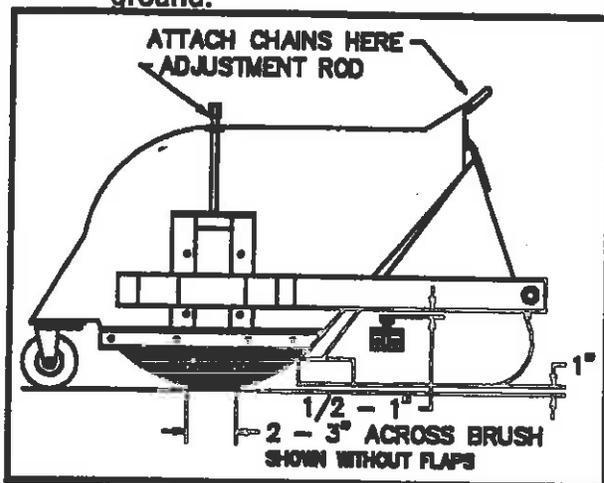

Figure 4
1. With front caster on ground, position bucket approximately 1 inch and level above ground. (See figure 4)
2. Shut machine down and stop engine. Adjust side bracket bolts so head of bolt has 1/2" to 1" clearance to sweeper side arm (See figure 4).